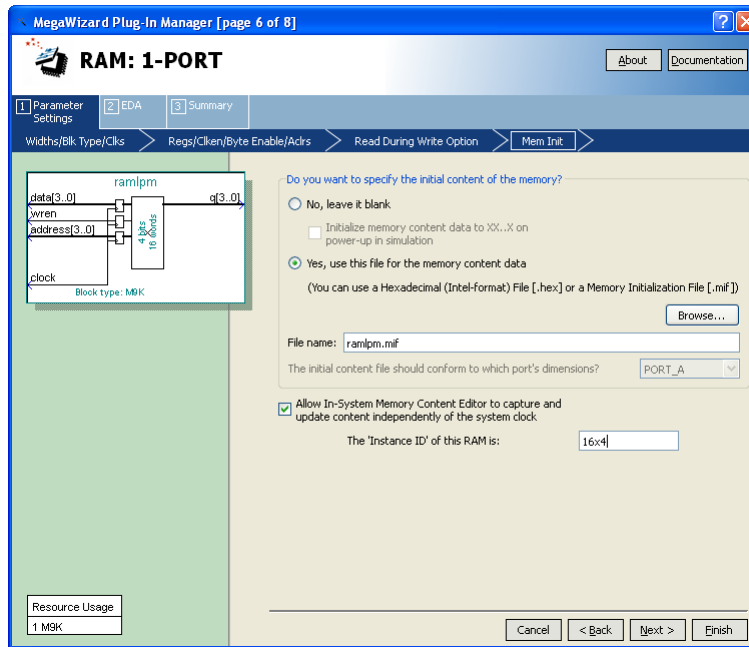

Figure 6: Configuring *RAM: 1-PORT* for use with the In-System Memory Content Editor.
- Create a new Quartus II project for your circuit, and use the MegaWizard Plug-in Manager to again create a *RAM: 1-PORT* LPM. For Pages 3 to 5 of the Wizard use the same settings as in Part I. On Page 6, shown in Figure 6, specify the *ramlpm.mif* file as you did in Part V, but also make the setting *Allow In-System Memory Content Editor* to capture and update content independently of the system clock. This option allows you to use a feature of the Quartus II CAD system called the In-System Memory Content Editor to view and manipulate the contents of the created RAM module. When using this tool you can optionally specify a four-character 'Instance ID' that serves as a name for the memory; in Figure 6 we gave the RAM module the name *16x4*. Complete the final steps in the Wizard.